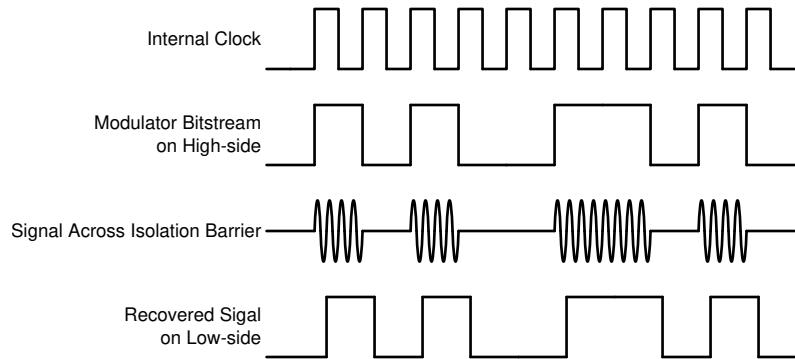

图 7-1. OOK-Based Modulation Scheme
The AMC1202 uses an on-off keying (OOK) modulation scheme, as shown in 图 7-1, to transmit the modulator output bitstream across the SiO₂-based isolation barrier. The transmit driver (TX) shown in the Functional Block Diagram transmits an internally-generated, high-frequency carrier across the isolation barrier to represent a digital *one* and does not send a signal to represent a digital *zero*. The nominal frequency of the carrier used inside the AMC1202 is 480 MHz.